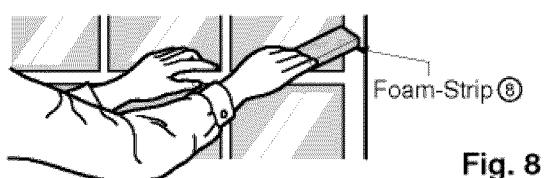

Fig. 8
- 11** Cut the Foam-Strip ⑧ to the proper length and insert between the upper window sash and the lower window sash. (See Fig. 8)